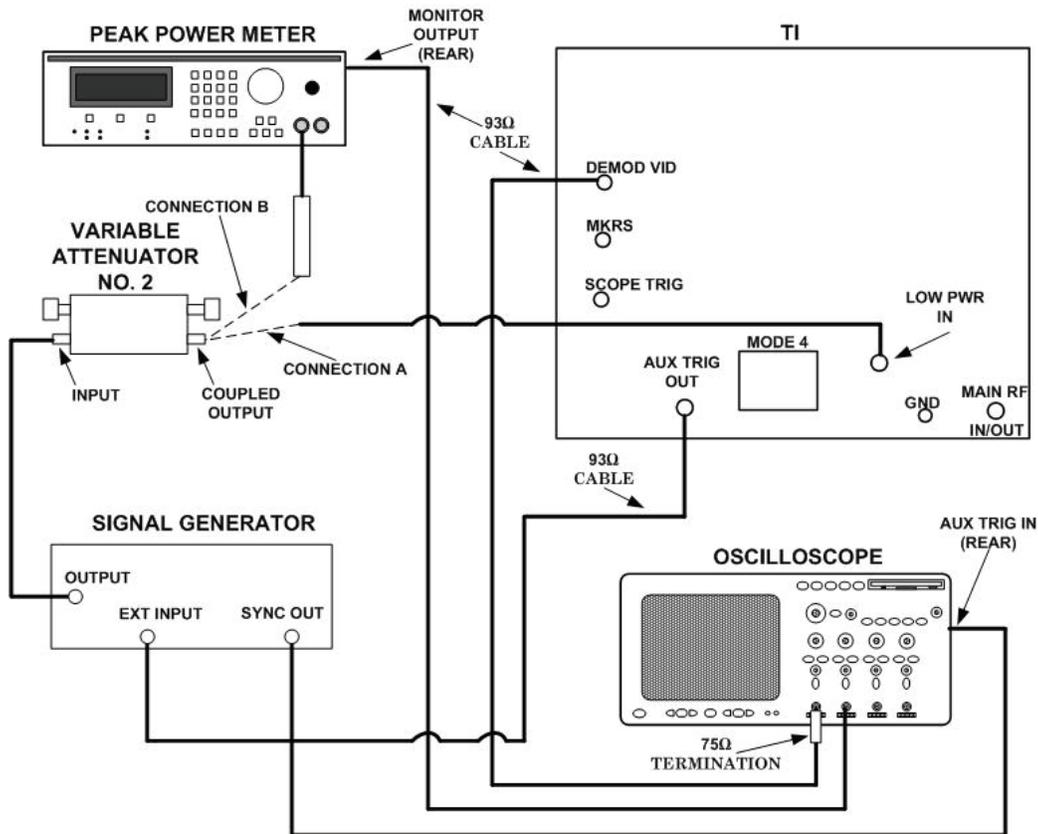
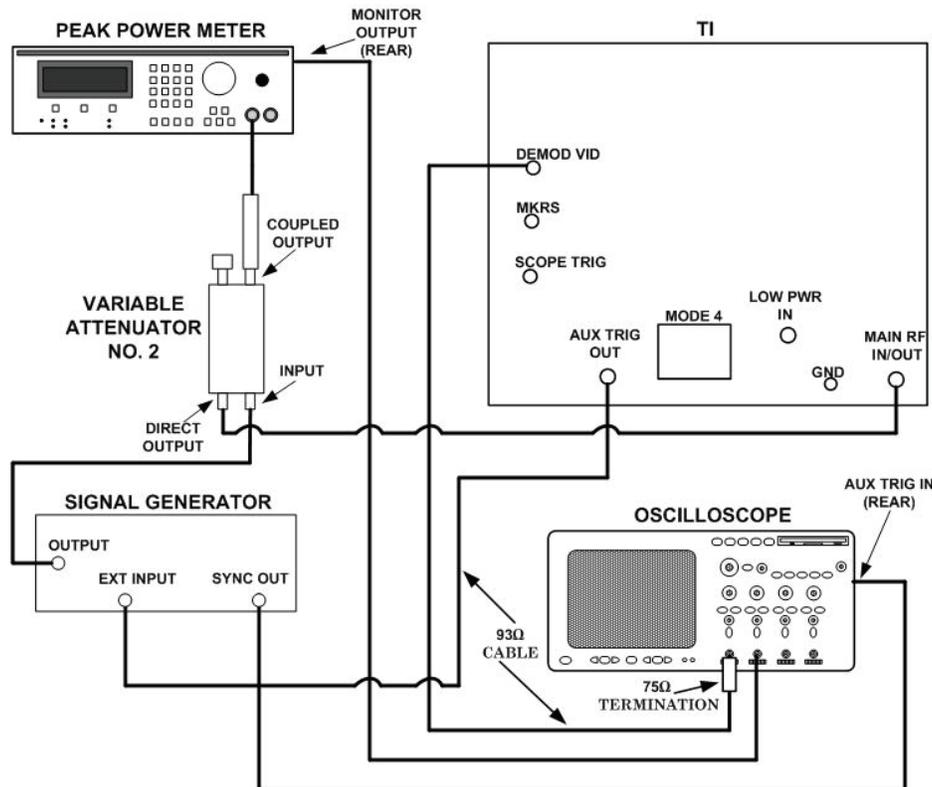

Figure 8. RF input low power - equipment setup.
Figure 9. RF input high power - equipment setup.
(1) Connect equipment as shown in figure 8, CONNECTION A.
(2) Set **MEASUREMENT FUNCTION SELECT** switch to **PWR** and **PRF SELECT RANGE** switch to **X100**.
(3) Adjust **MEASUREMENT DEMOD VID LEVEL** control for **MEASUREMENT** meter indication of 18 dBW.
(4) Set variable attenuator No. 2 dial to setting on calibration chart for 60 dB at 1090 MHz.
(5) Position signal generator controls for output frequency of 1090 MHz, **PULSE MODULATION WIDTH** control for 1 to 2 μ s, **PULSE MODULATION** switch to **EXT SYNC** and adjust **RF OUT** for a 1 V pulse indication of on oscilloscope **CH1**.
(6) Connect equipment as shown in figure 8, CONNECTION B.
(7) Set variable attenuator No. 2 dial to setting on calibration chart for 30 dB at 1090 MHz.
(8) Adjust peak power meter to set reference to top of pulse as viewed on **CH2** of oscilloscope. If peak power meter does not indicate between -3 and -1 dBm, perform **b** (1) through (10) below.
(9) Set variable attenuator No. 2 dial to setting on calibration chart for 45 dB at 1090 MHz.
(10) Adjust **MEASUREMENT DEMOD VID LEVEL** control for **MEASUREMENT METER** indication of **33 dBW**.
(11) Connect equipment as shown in figure 8, CONNECTION A.
(12) Set signal generator output an indication of 1 V pulse on **CH1** oscilloscope.
(13) Connect equipment as show figure 8, CONNECTION B.
(14) Set variable attenuator dial setting on calibration chart for 30 dB at 1090 Hz.
(15) Adjust peak power meter set reference to top of pulse as viewed on **CH2** of oscilloscope. If peak power meter does not indicate between -3 and -1 perform **b** (1) through (10) below.
(16) Connect equipment as show figure 9.
(17) Adjust **MEASUREMENT DEMOD VID LEVEL** control for **MEASUREMENT METER** indication of 18 **dBW**.
(18) Set variable attenuator No. 2 dial to setting on calibration chart for 28 dB at 1090 MHz.
(19) Repeat (5) above.
(20) Adjust peak power meter (**COARSE** and **FINE**) to set reference to top of pulse as viewed on oscilloscope **CH2**. If peak power meter does not indicate 0 dBm \pm 1 dBm, perform **b** (11) through (14) below.
(1) Set variable attenuator No. 2 dial to setting on calibration chart for 30 dB at 1090 MHz.
(2) Adjust signal generator output for a -2 dBm reference on peak power meter as indicated on oscilloscope **CH2**.
(3) Adjust variable attenuator No. 2 dial to setting on calibration chart for 60 dB at 1090 MHz.
(4) Connect equipment as shown in figure 8, CONNECTION A.
- (5) Adjust **MEASUREMENT DEMOD VID LEVEL** control for a 1-V pulse indication on **CH1** of oscilloscope (A5).